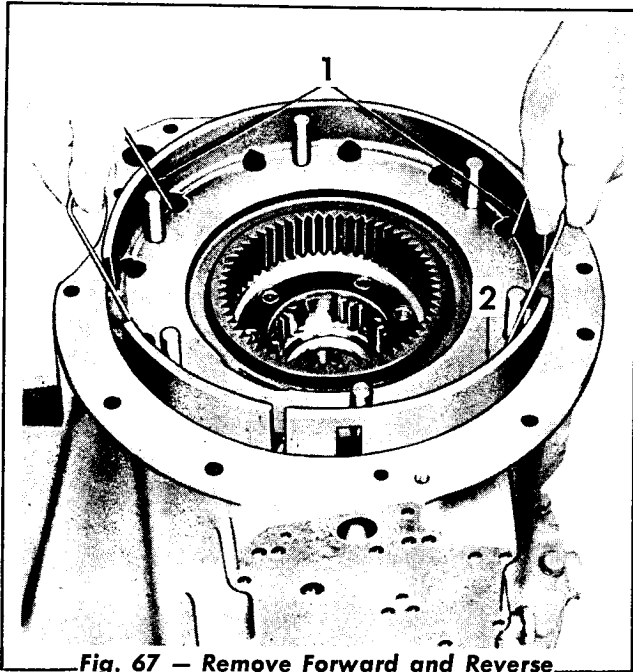

Fig. 67 — Remove Forward and Reverse Clutch Anchor
5. Using wire lifting hooks (Fig. 67), remove the forward and reverse clutch anchor.